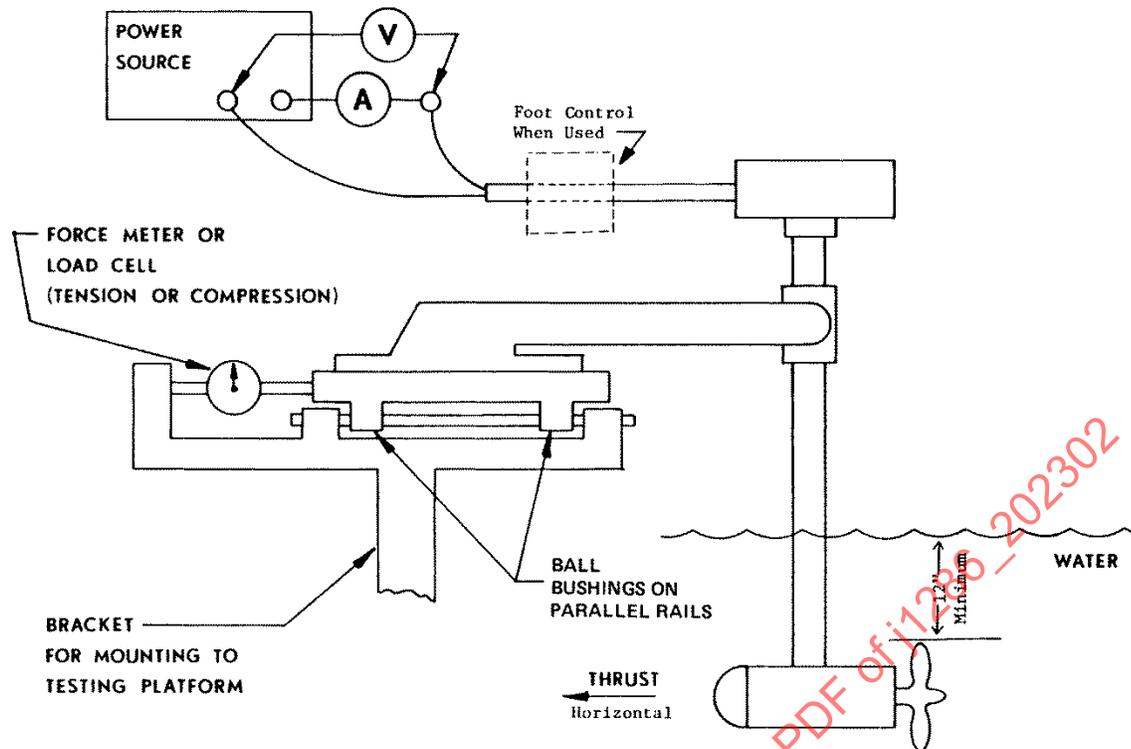

Figure 1 - Thrust test device
- 3.4 The thrust device shall be constructed as shown in Figure 1.
- 4.1 Install the electric outboard in the thrust device and connect the battery leads provided by the manufacturer to the power source (see Figure 1).
- 4.3 Install the thrust device in such a manner so that the highest point of the electric outboard propeller is 30.5 cm (12 inches) minimum below the surface of the water (see Figure 1).